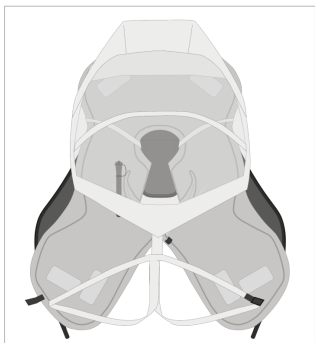

FIGURE 36 Stage 1
1. Place the deflated PFD on a flat surface with the oral tube facing up (see Deflating your PFD p. 11). Lay the spray hood out flat on top of the bladder (Fig 36).